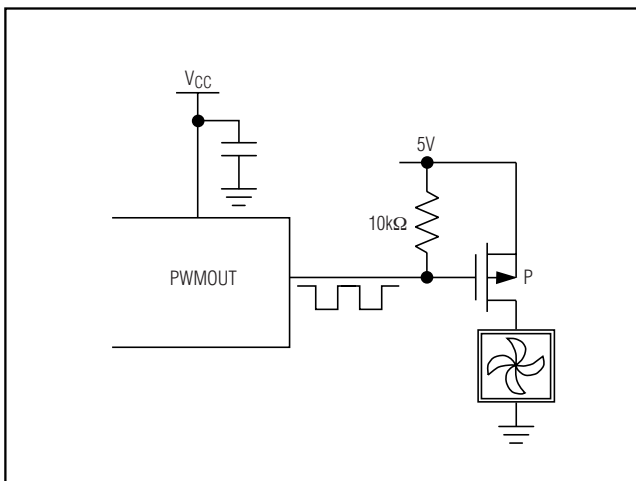

Figure 4. Driving a P-Channel MOSFET for Top-Side PWM Fan Drive
- 1) The PWMOUT_ signals are normally used in one of three ways to control the fan's speed: PWMOUT_ drives the gate of a MOSFET or the base of a bipolar transistor in series with the fan's power supply. The *Typical Application Circuit* shows the PWMOUT_ driving an n-channel MOSFET. In this case, the PWM invert bit (D4 in register 02h) is set to 1. Figure 4 shows PWMOUT_ driving a p-channel MOSFET and the PWM invert bit must be set to zero.